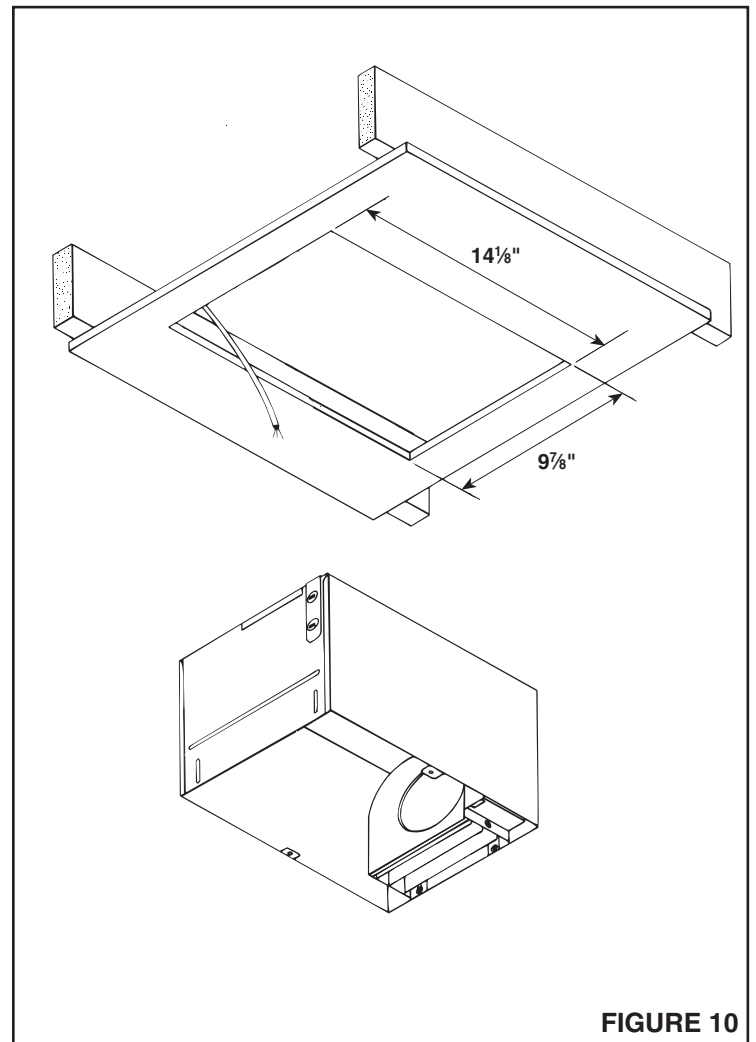

FIGURE 10
2. **Refer to Figure 10.** Mark ceiling for cutout. Cutout dimensions: $14\frac{1}{8}$ " long x $9\frac{7}{8}$ " wide. Make cutout in ceiling.